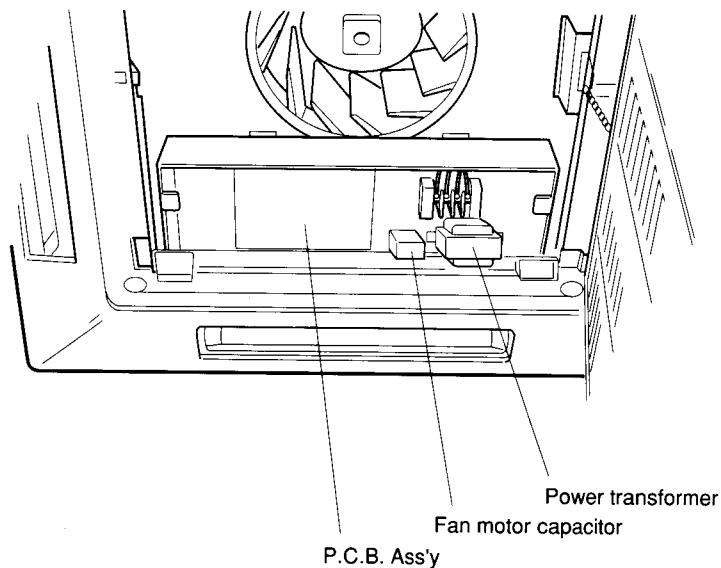

**Fig. 34**
- Then check for continuity of the fuse by using the multimeter. (**Fig.34**)